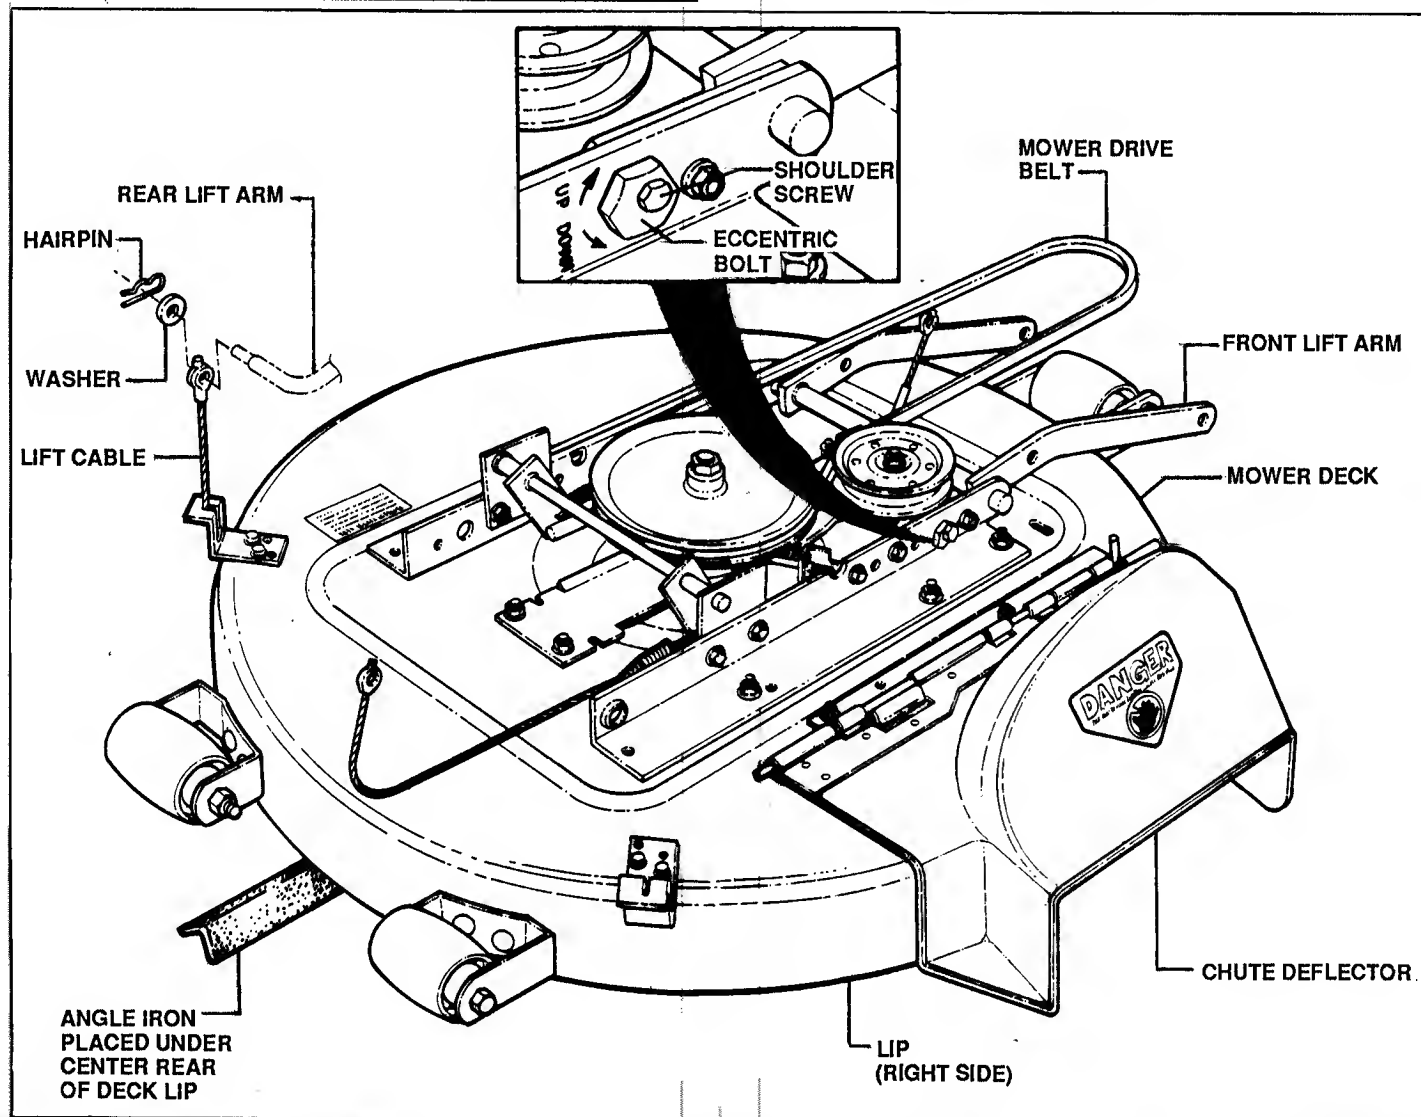

FIGURE 31
- (1) Place a piece of angle iron under lip at center rear of deck. See Figure 31.
- (2) Pull the pins and remove the CABLES from the REAR LIFT ARMS.
- (3) Measure distance between deck lip (at center of left side) and the floor surface. Compare to the distance from right side deck lip to floor.
- (4) If required, adjust side-to-side level of mower deck by loosening **SHOULDER SCREW** on side of lift arm **ECCENTRIC BOLT**. See Figure 31.
- (5) Turn the **ECCENTRIC BOLT** "UP" or "DOWN" to level deck within 1/8" side-to-side.
- (6) When deck is level, tighten **SHOULDER SCREW**.
- (7) Re-attach **CHAINS** to **REAR LIFT ARMS**.
- (8) If either **CHAIN** is slack, adjust **EYEBOLT** until both **CHAINS** have equal tension. Recheck deck level. See Figure 31.